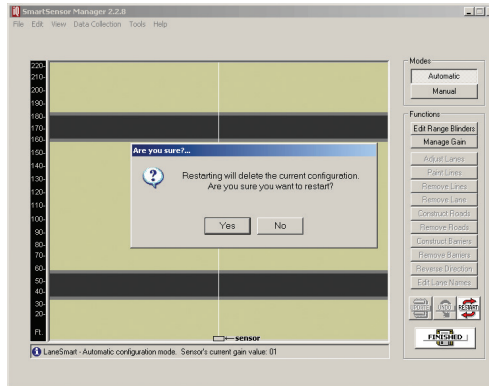

Figure 6.1 – Confirming Automatic Lane Configuration
- 5 Confirm the configuration restart by clicking **Yes** in the box that appears (see Figure 6.1). SmartSensor Manager will now automatically begin detecting and configuring lanes, and the screen will show a visual depiction of the lanes and vehicle detections in real time.